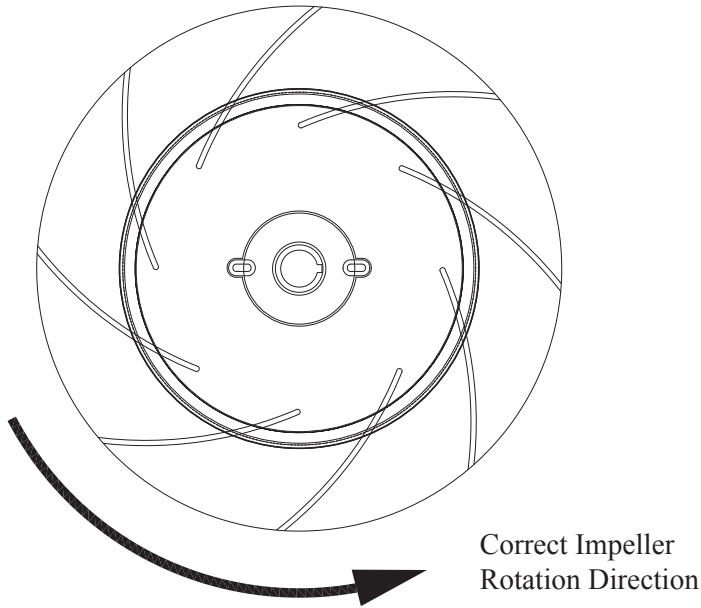

FIG 6
8. Before reattaching the blower module access panel, supply power to the unit and momentarily turn unit on and off via the blower switch located at the source capture hood. Note the rotation of the impeller wheels (Fig. 6).